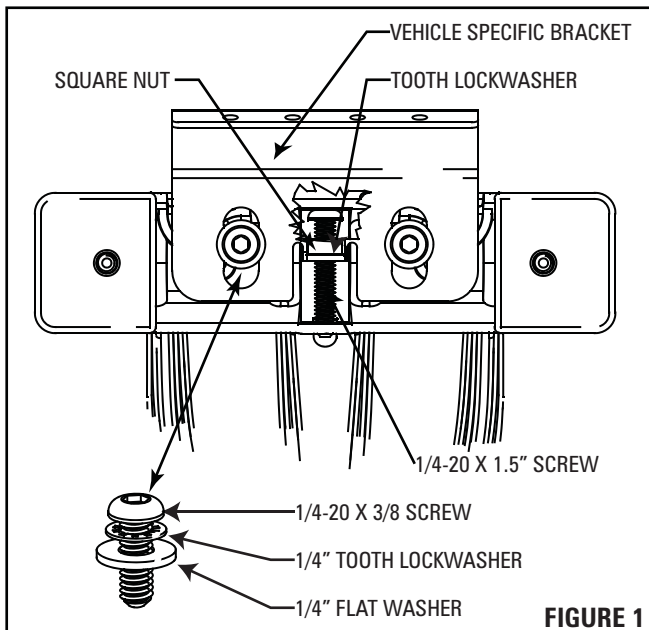

FIGURE 1
1. Mount fixed height brackets (See Figure 1) using supplied (3) T25 torx screws on each side. Temporarily place the lightbar in it's correct position on the roof of the vehicle. The bar should be positioned about the center line of the "B" pillar.
4. Adjust fixed height bracket position on the Lightbar by loosening the (3) T25 Torx Screws on each side (See Figure 1). Be sure that there is enough clearance between fixed height brackets and vehicle specific brackets to allow for tensioning to roof. When the correct position is found, tighten T25 torx screws that attach fixed height bracket to lightbar base end plates.
1. Locate the permanent hardware kit that is included. Kit will include (4) 1/4"-20 x 1" hex head screws, (4) flat washers, (4) lock washers, (4) square nuts, and (6) T25 Torx Screws.
2. Attach fixed height brackets to lightbar using T25 Torx Screws. Brackets should be adjusted to identical positions at both ends of lightbar. See Figure 1.
4. Mark the location for the (4) holes that need to be drilled through the roof that will attach the fixed height brackets to the roof.
1. Attach vehicle specific bracket to adjustable mounting bracket. 1 1/2" Allen drive screw must be placed "underneath" adjustable mounting bracket (See Figure 1). Allen drive screw will be accessible through hole in front of adjustable bracket. Square nut must be placed in front of vehicle specific bracket. Place 1/4" lockwasher between square nut and vehicle specific hook bracket. See Figure 1 for details. To hold bracket in place, use provided hardware: 1 flat washer, 1 lock washer and 3/8" Allen drive screw per slot (as shown in Figure 1).